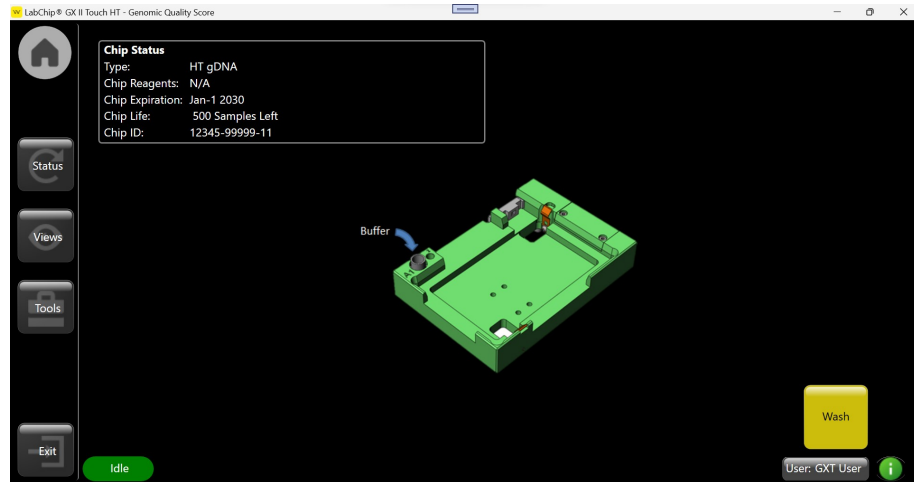

Figure 24. Wash screen.
- Touch the *Wash* button on the *Home* screen (Figure 24). The *Wash* screen opens.